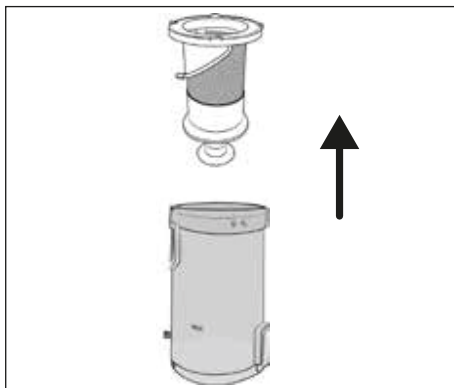

Fig. 21
- 4) Remove the stainless steel filter **6** from the dust container **7** by reaching into the opening of the stainless steel filter **6** and pulling it out of the dust container **7** (see Fig. 21).